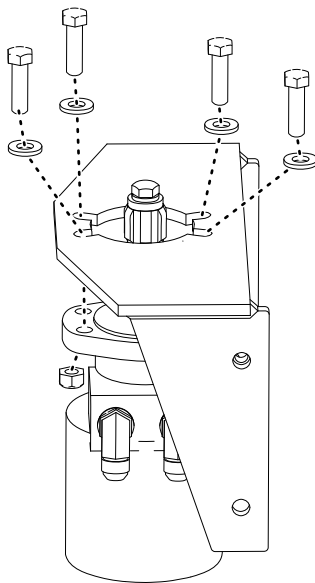

Figure 4
7. Secure the bracket to the motor using the 4 bolts (1/2 x 1 3/4 inch), the 4 flat washers (1/2 inch), and the 4 locknuts (1/2 inch) (Figure 4).